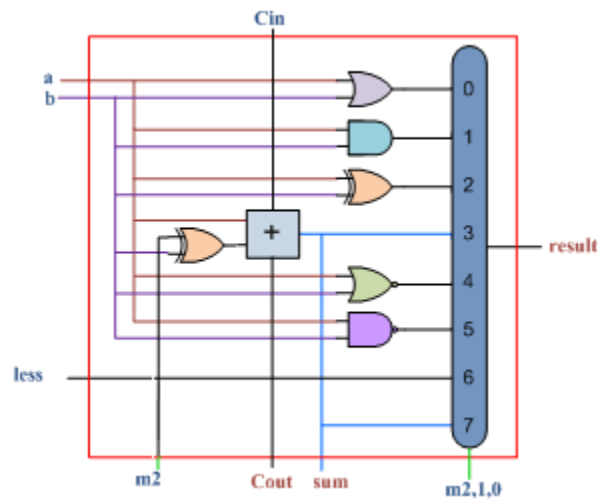

Figure 2. 1-bit ALU.
- Using modular design, you may start the design of the 32-bit ALU by considering the implementation of a 1-bit ALU shown in Figure 2. In order to build this circuit, most of the primitive and basic gates are available in the library *Library439.v*. However, you have to design the 1-bit full adder and the 8-to-1 multiplexer according the following specifications. Keep in your mind that your Verilog modules for these units should be structural.